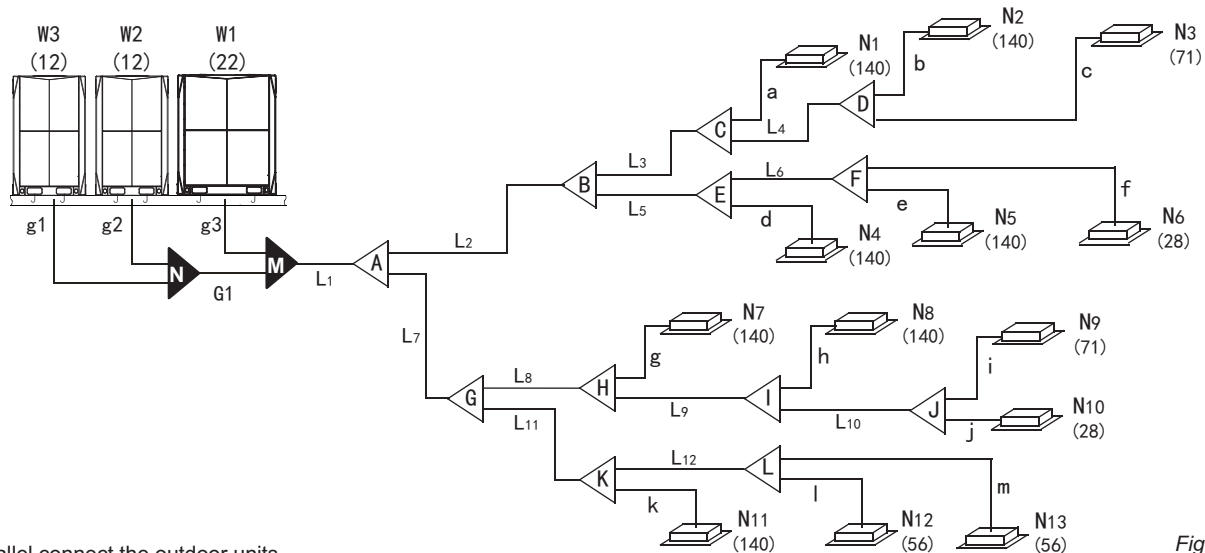

Fig. 5-4
- Take Fig.5-4 as an example. Provided that the equivalent length of all pipes in this system is larger than 90m.